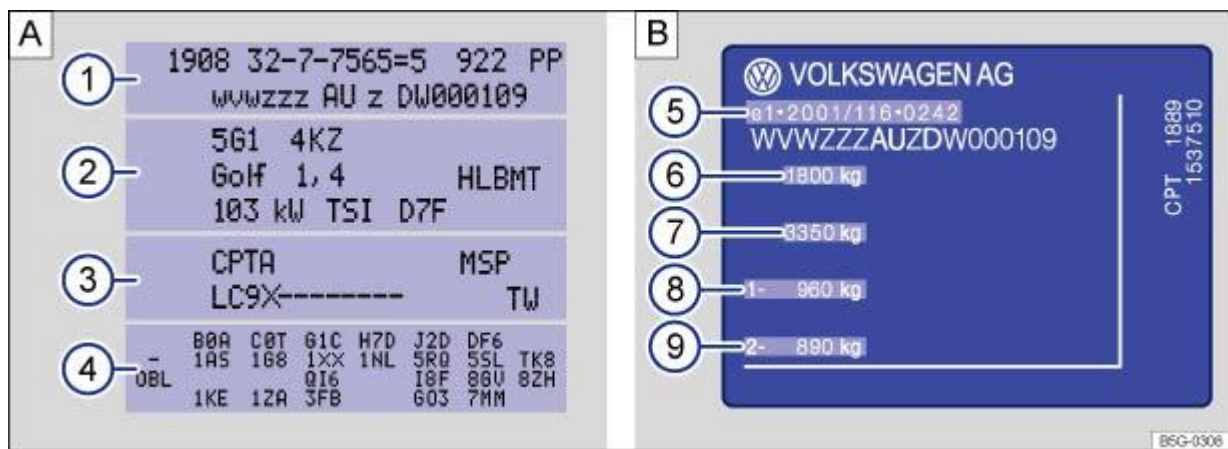

Fig. 213 : vehicle data sticker: the example shows a vehicle with engine code CPTA ③ : type plate.
The vehicle data sticker ⇒ Fig. 213  is located on the cover of the owner's manual and under the rear luggage compartment trim on the luggage compartment wall. It contains the following data:
- ① Vehicle identification number (chassis number)
- ② Vehicle type, engine power, gearbox type
- ③ Engine and gearbox codes, paint number, interior equipment. In the example, the engine code is CPTA ⇒ Fig. 213 .
- ④ Additional equipment, PR numbers
The type plate ⇒ Fig. 213  can be seen on the lower part of the door pillar when the driver door is open. Vehicles for certain export countries do not have a type plate.